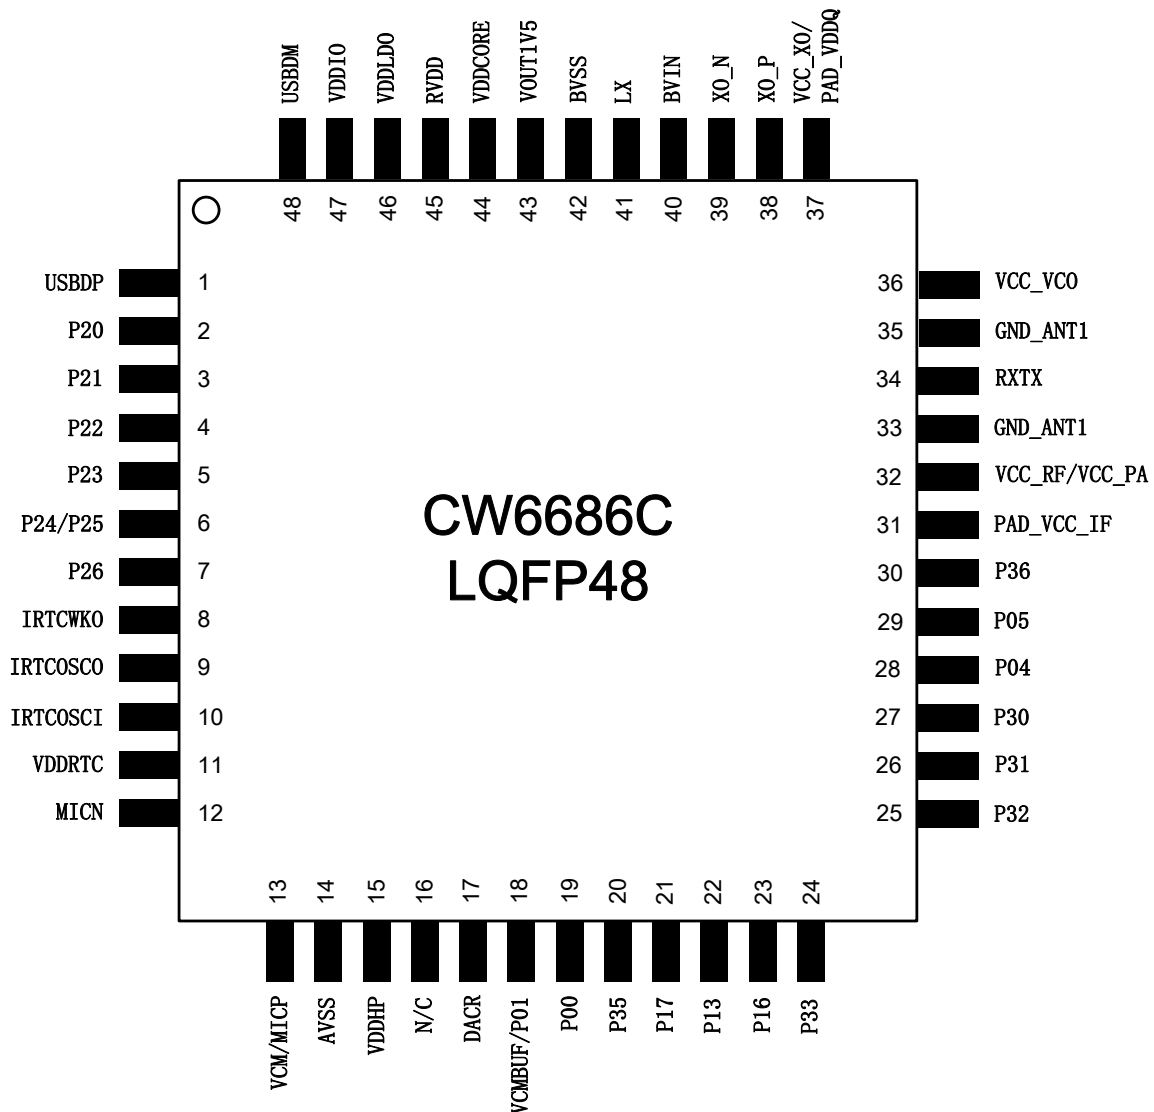

Figure 2-1 Pin Assignment of CW6686C
*Figure 2-1* shows the pin assignments of LQFP48 package.